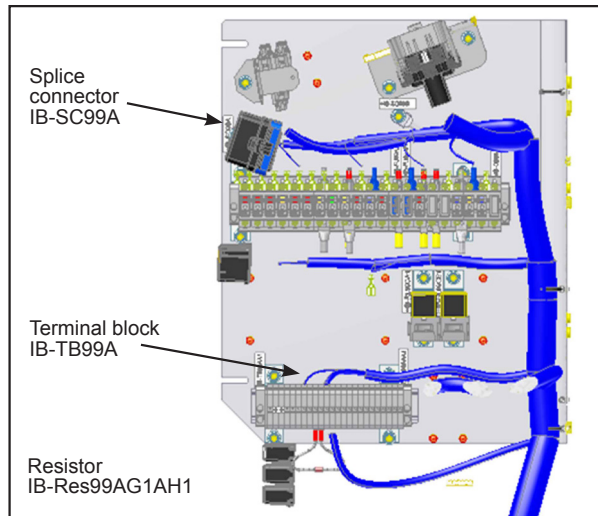

Figure 11 - IB Panel
**Terminal block.** See Figure 11.
**Splice connector.** See Figure 11.